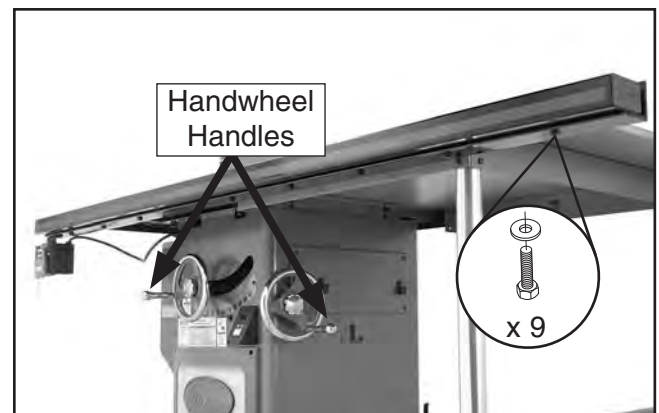

Figure 24. Fence tube mounted to front fence rail.
- Place the 91½" fence tube over the 91½" front rail and secure with nine M8-1.25 x 12 hex bolts with 8mm flat washers, as shown in **Figure 24**.
- Install the handwheel handles, as shown in **Figure 24**.